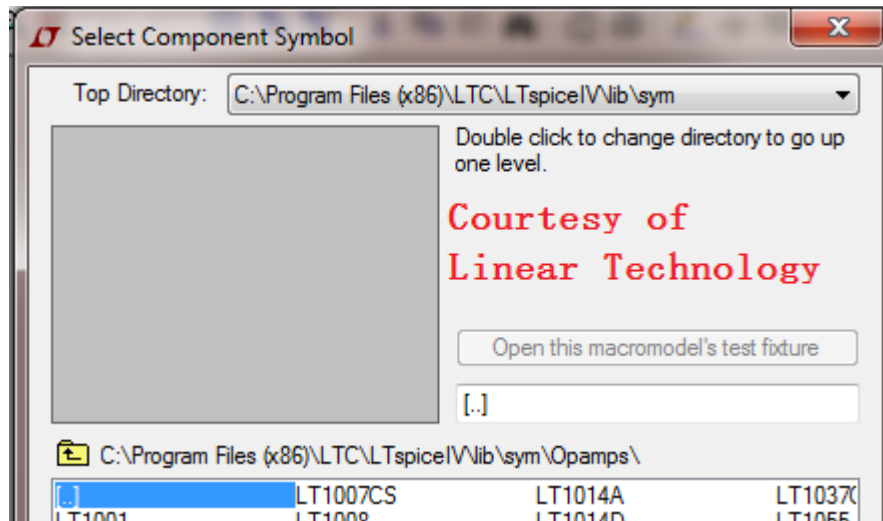

Fig. 4 Return to upper-level directory in the Select Component Symbol window
**Hint:** In the Select Component Symbol window, to return to the higher hierarchical menu, you need to double click on the [...] icon (as shown in Fig. 4). And to rotate the component when you are placing them, use "Ctrl+R".